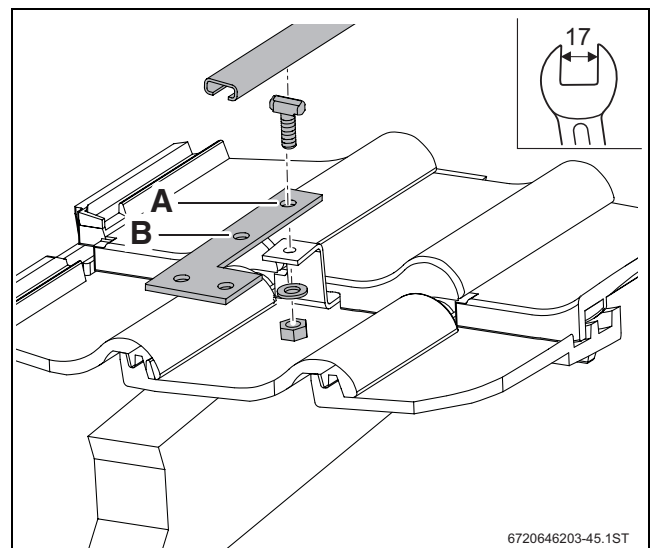

Fig. 27 Screwing to L-shaped connector and mounting bracket (here: at position A)
- ▶ Fit rails as specified by Tab. 13 to L-shaped connector and mounting bracket (→ Fig. 27).